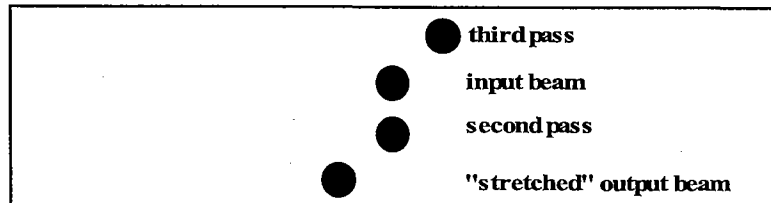

**Fig. 3.9** The arrow shows the 1" x 7" retro-reflection mirror behind the stretcher grating.
6. Readjust the vertical micrometer knob to the large mirror mount counter clockwise forcing the beam from the large gold mirror to go up and over the grating stage assembly ultimately striking the lower most part of the 1" x 7" dielectric retro reflector (#10). Position the beam on the 1" x 7" mirror (Fig. 3.9) so that it is @ 3-4mm above the bottom edge of the mirror.